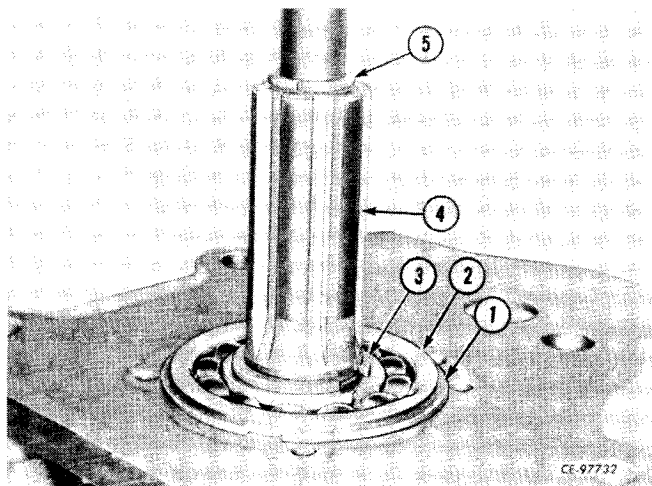

Figure 4-33
Remove snap ring (3, Fig. 4-33) from main drive gear (4) and snap ring (1) from bearing (2). Using a suitable puller remove bearing (2) from housing and gear (4). Remove gear (4).